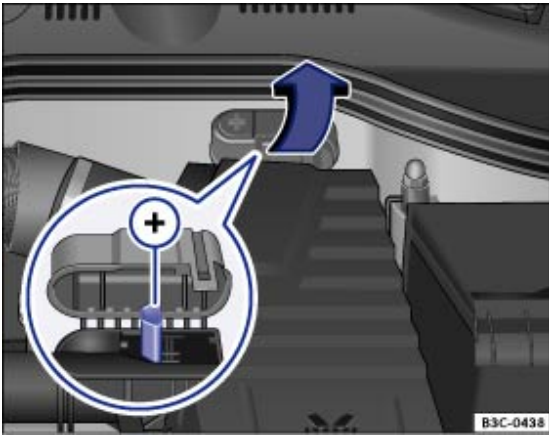

Fig. 252 In the engine compartment: jump lead connection point, positive ⊕
- If applicable, open the battery cover → *Vehicle battery* or the cap on the positive jump lead connection point1) in the engine compartment in the direction of the arrow → *Fig. 252* .
- Connect one end of the *red* jump lead to the positive terminal → *Fig. 253* ⊕ or → *Fig. 252* ⊕ of the vehicle with the discharged battery ① → ⚠ .
- Connect the other end of the *red* jump lead to the positive terminal ⊕ in the vehicle providing assistance ② .